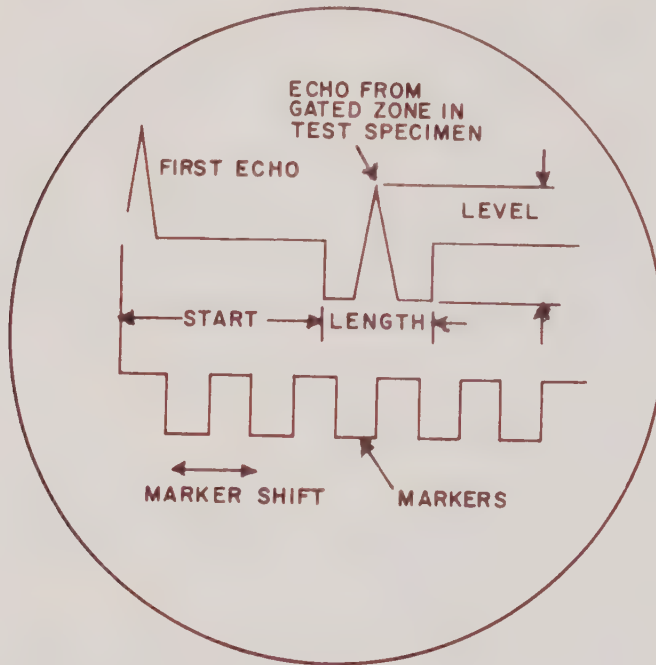

Figure 9-2
Printed circuit board containing circuitry for generation of the square wave used to establish the "gate" or "zone" and the gated video amplifier which passes signals from the UM Reflectoscope through the "zone" to the Recorder Board. Also sends gate image signal to UM Reflectoscope Display (figure 9-2).
Provides coarse positioning of the gate start (figure 9-2).
A coarse control which sets the width (or length) of the gate (figure 9-2).
Establishes the signal level (on the UM Reflectoscope display) at which alarms, relays or on-off printing will be activated or initiated (figure 9-2).
Sets up systems to alarm when any displayed signal within the gate (figure 9-2) increases above the level set by the LEVEL control. The alarm buzzer will sound and the panel light will remain on for a minimum of 0.1 sec., or as long as a signal above the level set remains in the gated area. Alarm circuits reset automatically when the signal decreases in amplitude below the alarm level, or is no longer in the gate.
When the sync switch is in the FIRST ECHO position and the marker control on the Time Control Unit is in the IF position, a second trace will always be present on the CRT. The markers will be on this trace and their horizontal position (relative to the video trace) can be varied without disturbing the marker calibrations (figure 9-2).
- (1) Assemble a Search Unit, UM Reflectoscope with Special Function Cabinet, and a test specimen.
- (2) Check that the Transigate unit is in position and properly secured.
- (3) If a Type S Recording Amplifier or a Type R Relay Chassis is being used, check the OPERATION sections on these units for proper procedure.
- (4) Turn on the UM Reflectoscope and with GATE control on Transigate to ON obtain a video trace and marker trace similar to that shown in Figure 9-2.
- (1) With a presentation on the UM Reflectoscope similar to that shown in Figure 9-2 move the pointer on the SYNC control from MAIN PULSE
- (2) Go next to the GATE controls on the Transigate. Move the START pointer and observe that the gate image is moved across the screen in jumps, and that it will disappear to the right if the sweep circuits on the UM Reflectoscope are not readjusted. Next adjust the vernier on the START control and note that it will position the gate image continuously between the steps created by the pointer. Thus any "zone" in the test specimen after the first echo (from the entrant face) can be set up for examination.
- (3) Next adjust the pointer on the LENGTH control and observe that the width of the gate image (and therefore the width of the "zone" in the test specimen subjected to examination) changes in jump steps. Then adjust the vernier on the LENGTH control and observe that it will continuously adjust the gate image width between the steps created by the pointer.
- (4) By manipulating the GATE controls, SYNC controls, and the controls on the UM Reflectoscope, it should be possible to achieve a presentation similar to that shown in Figure 9-2.
- (5) With the MARKER control on the Time Control Unit in IF position, adjust the MARKER SHIFT vernier (on the SYNC control) and observe that the markers can be positioned relative to the video trace without changing the marker frequency (Figure 9-2).
- (6) Next manipulate the GAIN control on the Pulser Receiver to vary the amplitude of the echo in the gate and at the same time adjust the vernier LEVEL control on the Transigate and observe that the RESET light and buzzer (if the AUDIO switch is ON) can be activated at various predetermined levels of echo signal. Also move the pointer to + and - AUTO positions and note that in the + position the alarms are actuated when the echo signal exceeds the set level and that in the - position a decrease in signal achieves the same effect; also that the alarms reset automatically. The + and - MANUAL positions have the same effect except that the alarms have to be reset by pushing the RESET light.
- (7) If a Type S Recording Amplifier or a Type R Relay Chassis is being used, consult their operating instructions and observe that they react properly at the same time that the alarms are actuated.